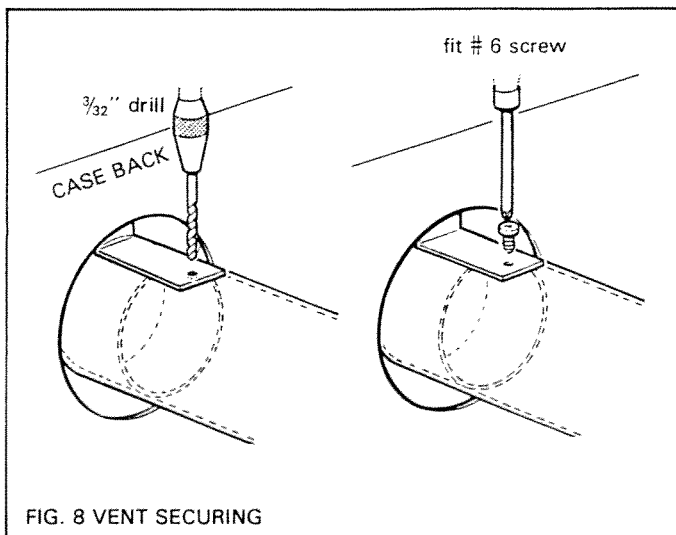

FIG. 8 VENT SECURING
- (b) A #6 x $\frac{3}{8}$ " thread tapping screw is supplied to help secure the vent unit to the fireplace outlet. Insert a $\frac{3}{32}$ " drill through the hole in the vent securing bracket (situated above the outer collar (see fig. 8). Drill into the vent outer tube and secure with the screw.